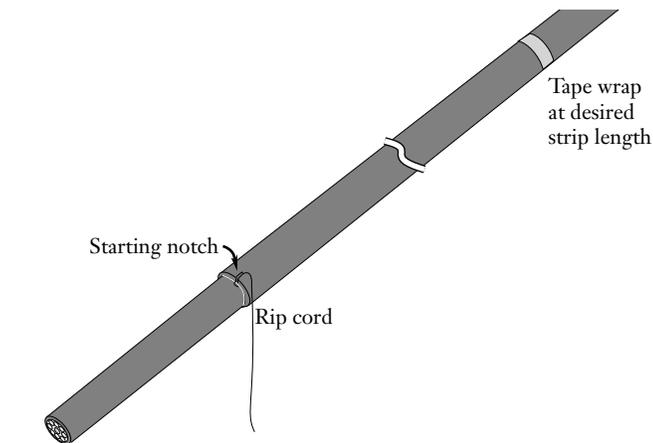

Figure 2
4.2 To complete the cable preparation (Figure 2):